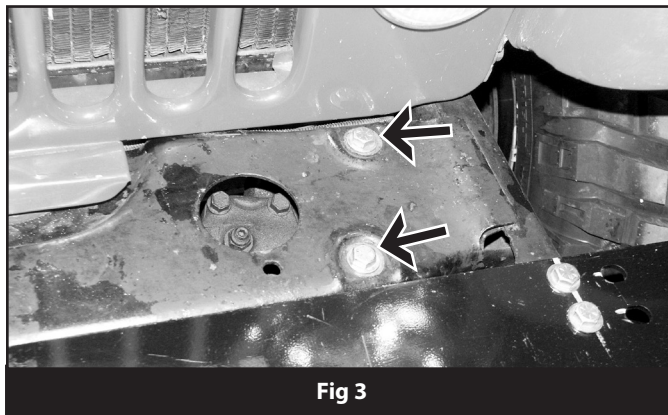

Fig 3
14. Support steering box from below and remove 2 upper mounting bolts (Fig 3)